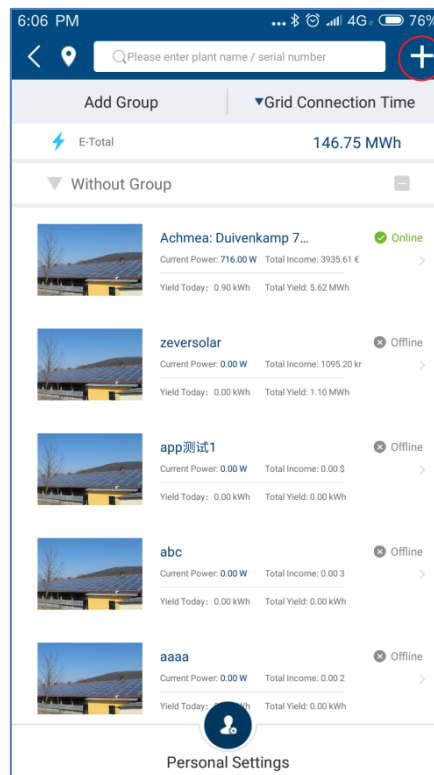
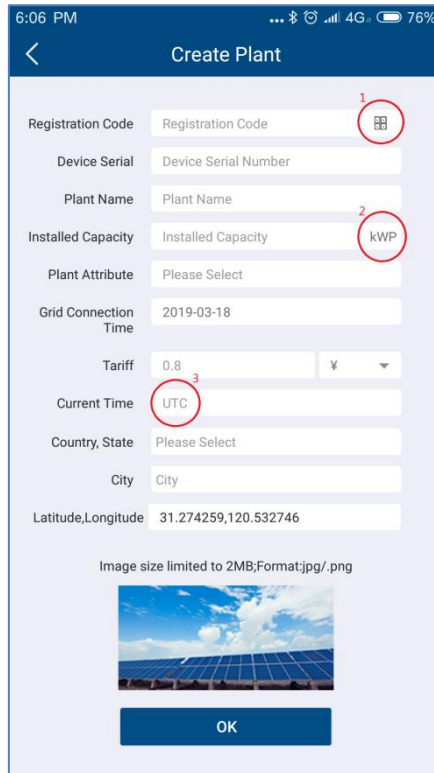

Figure 2-2-1 Power Plant List Page
Figure 2-2-2 Create Plant Page
Step 2: After successful login, you will see the PV power plant list page, as shown in Figure 2-2-1 (Hint: If you have not created or been shared with the power plant before, the power plant list will be empty).
Step 3: Click the “+” button in red in the upper right corner of Figure 2-2-1 to enter the PV power plant creation page, as shown in Figure 2-2-2.